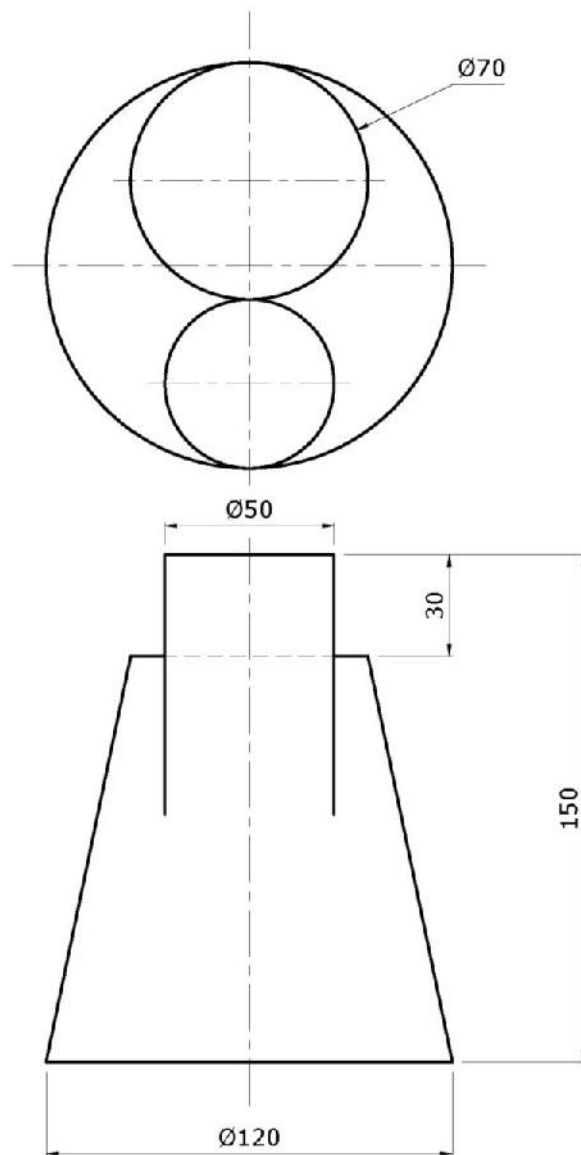

Figure 3b
- Copy, full size, the plan and the incomplete front elevation of the truncated oblique cone and intersecting cylinder shown in Figure 3b. (2.5)
- Determine the intersection of the cone and cylinder on the end elevation and show the curve of intersection on the front elevation. (6)
- Draw a half surface development of the truncated oblique cone, showing neatly the construction of the true lengths. (9)